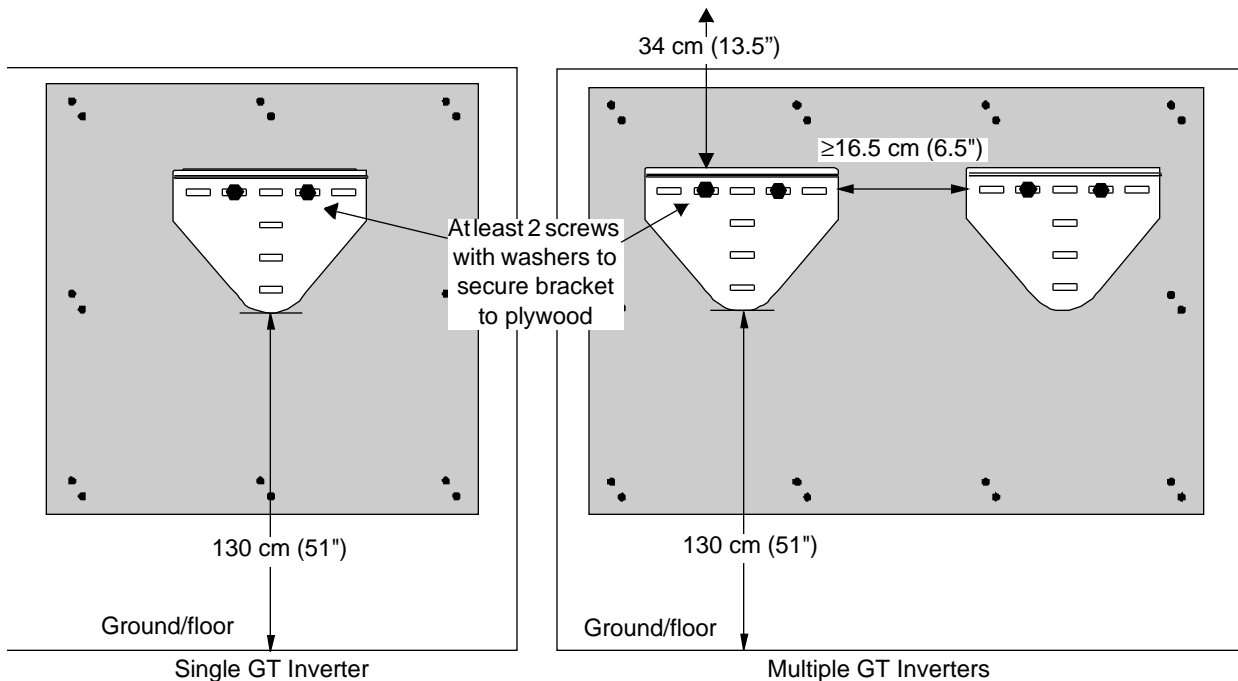

Figure 2-7 Installing the Mounting Bracket using Plywood Support
3. Using a level, place the mounting bracket against the wall surface so that the bottom edge of the bracket is at least 130 cm (51 inches) above the ground. Position the top edge of the bracket a minimum of 34 cm (13.5 inches) below any ceiling or roof. See Figure 2-7.